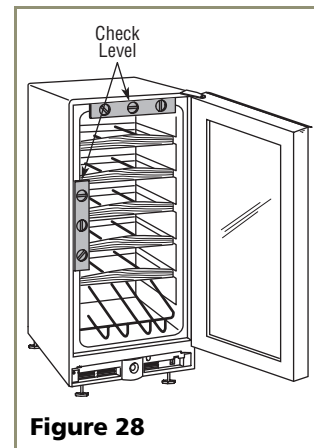

Figure 28
1. Use a level to check the levelness of the Wine Captain® from front to back and from side to side. Level should be placed along top edge and side edge as shown (see **Figure 28**).